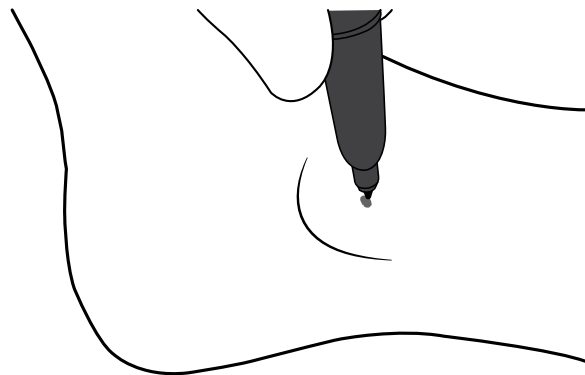

Figure 5. Marking the medial malleolus
3. Palpate the medial malleolus on the inside of the ankle. Use a sterile marking pen to mark the midpoint of the medial malleolus (Figure 5).